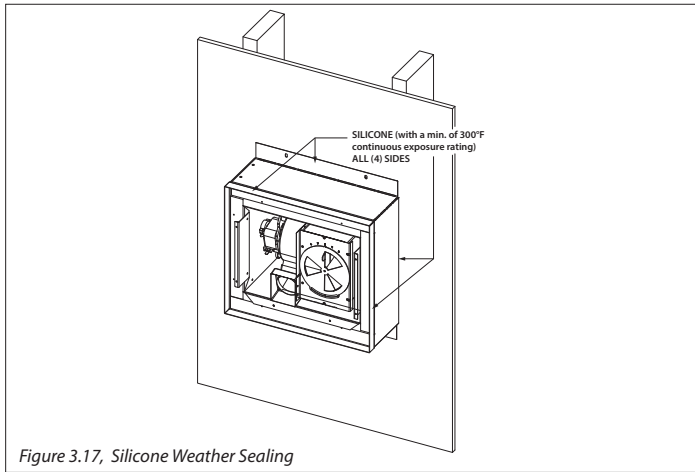

Figure 3.17, Silicone Weather Sealing
7. After the #KPV has been secured to the #KPV-FEK, silicone should be applied around the outer edge of #KPV-FEK where it meets the building exterior. Silicone should also be applied where #KPV and #KPV-FEK meet, as shown in Figure 3.17 on the following page.